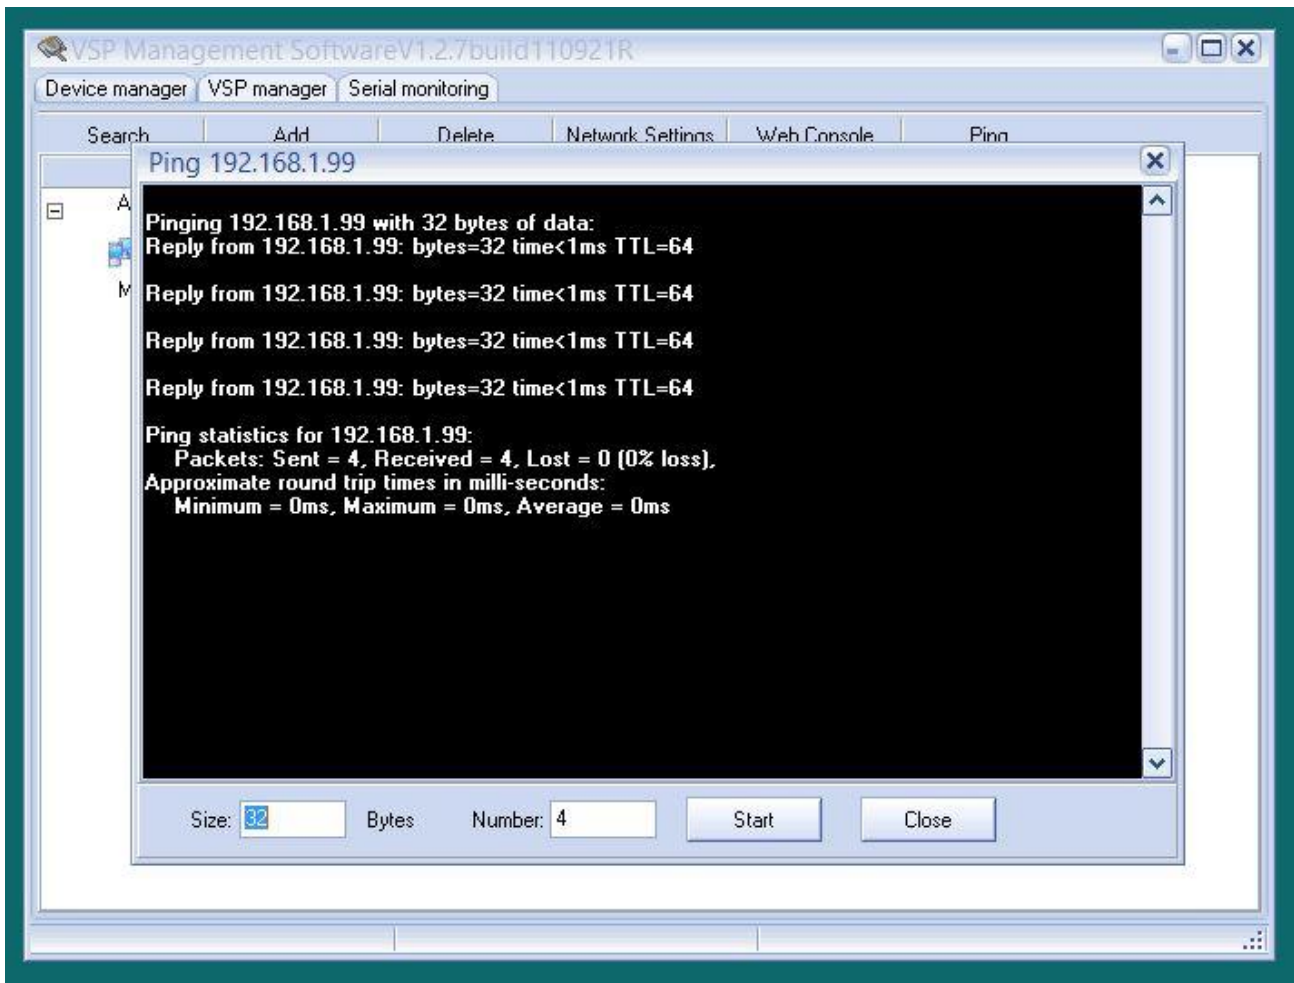

FIGURE 4.47 – PING TEST
6) You can do a PING test to see if the DEVICE is responsive. (SEE FIGURE 4.47).